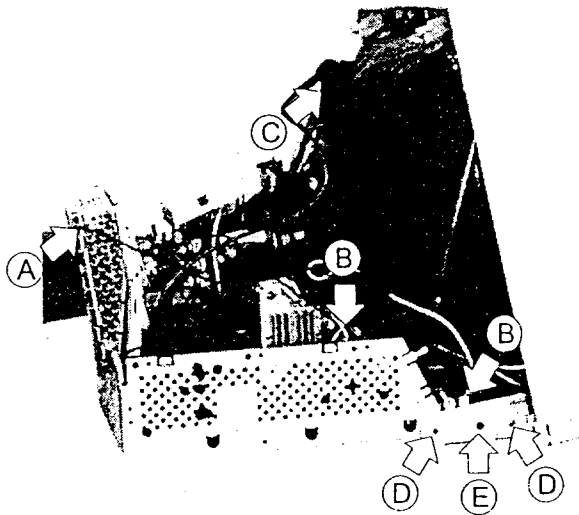

Figure 2-5 Internal Disassembly (Left Side)
1. Disconnect the ground wire. Refer to the figure 2-5 (A).
2. Remove the connected pins from the Main Board. Refer to the figure 2-5 (B).
3. Remove the anode cap from the CRT. Refer to the figure 2-5(C).
4. Remove the two screws at the bezel. Refer to the figure 2-5 (D).
5. Remove the nylon revets holding from bezel. Refer to the figure 2-5 (E).